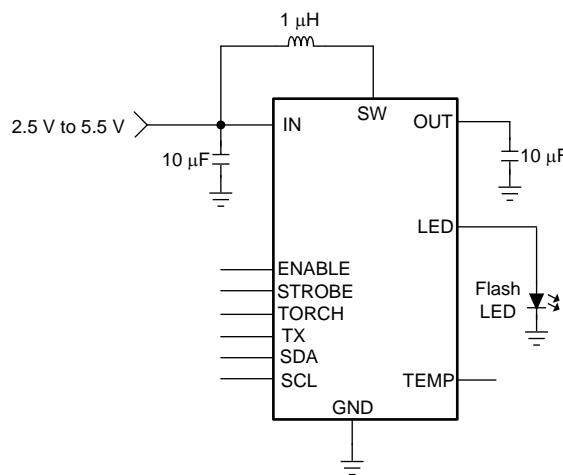

Figure 41. LM3556 Typical Application
Choosing the correct size and type of input capacitor helps minimize the voltage ripple caused by the switching of the LM3556 device's boost converter and reduces noise on the boost converter's input terminal that can feed through and disrupt internal analog signals. In the Figure 41 a 10- $\mu$ F ceramic input capacitor works well. It is important to place the input capacitor as close as possible to the LM3556's input (IN) pin. This reduces the series resistance and inductance that can inject noise into the device due to the input switching currents. Table 16 lists various input capacitors recommended for use with the LM3556.